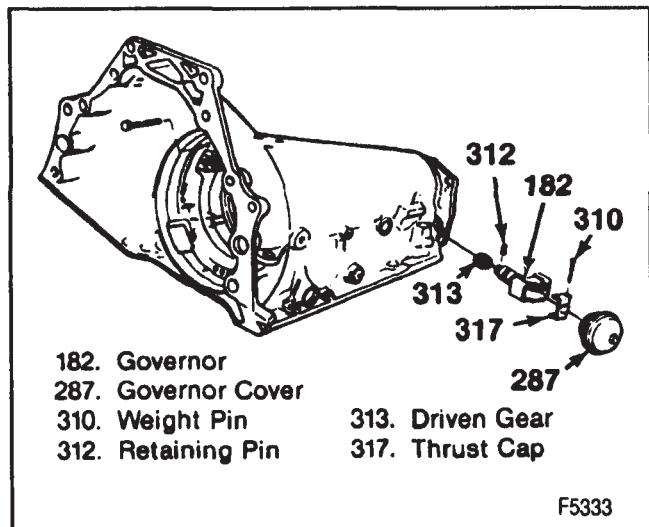

Figure 59—Governor
### Remove or Disconnect (Figure 59)
2. Valve (107) into the sleeve.
3. Springs (110), the weights (108 and 109) and the thrust cap (85) onto the governor, aligning the pin holes.
4. New weight pins (84) and crimp both ends of each pin.
**Install or Connect (Figure 59)**